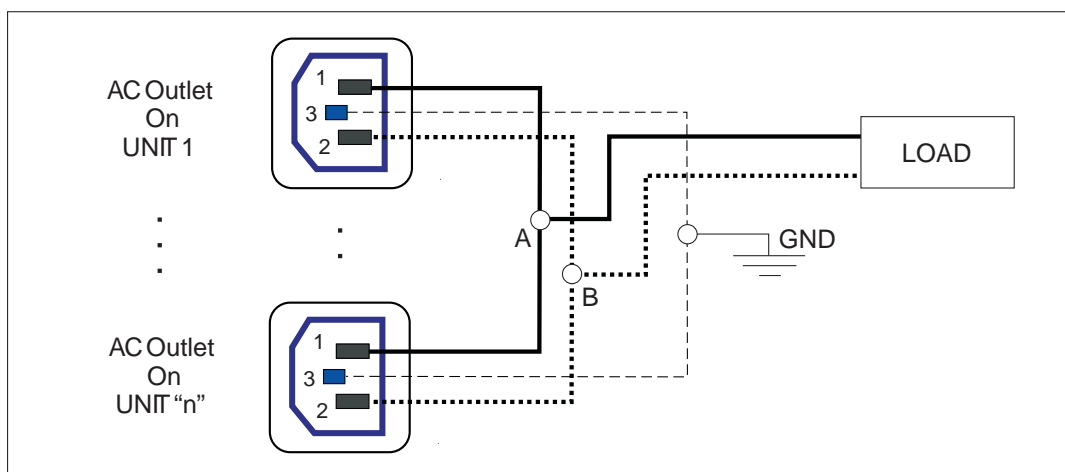
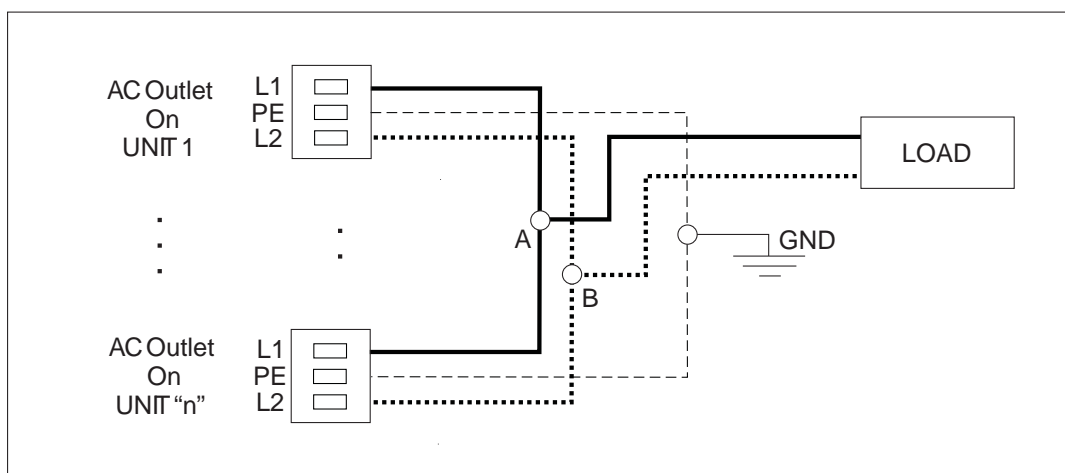

Figure 4-8 AC Output Connections for n-inverters in parallel configuration
Figure 4-9 AC Output Connections for n-inverters in parallel configuration
2. Take care to use cables with the same section and length for each inverter, from the outlet terminals to the common points A, B, GND, as shown in Figures 4-8 and 4-9.
3. Connect the load to the inverter as described in paragraph 4.2.2. Make sure that the length and the section of the cables between each unit and the common point of the load are the same (Figure 4-8 and Figure 4-9 on page 14).